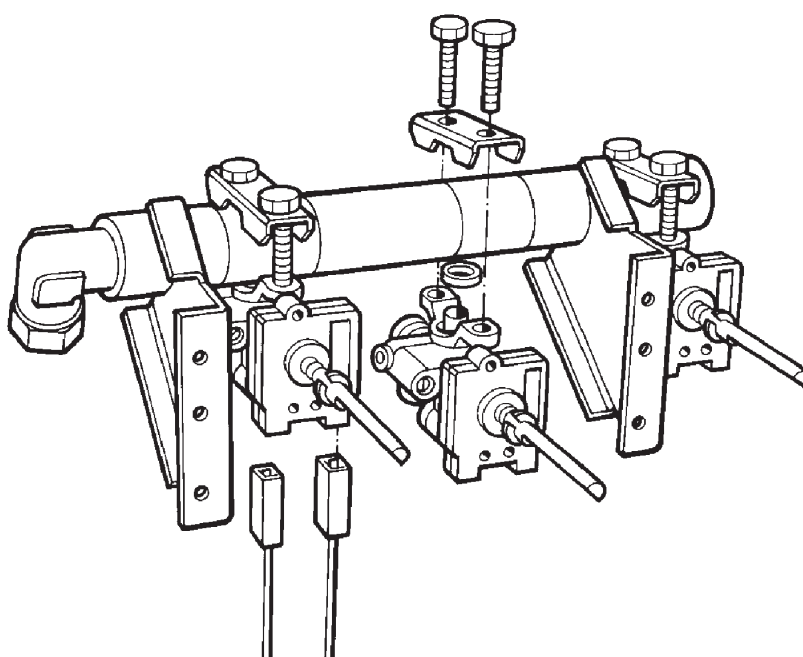

Fig. 28
3. Disconnect gas rail feed pipe (19mm nut). (See Fig. 28)
5. Remove (10) screws fixing gas rail support panel and gas rail.
6. Disconnect ignition switch cables. Lift away inner facia and move clear, do not stress wires on thermostats. (See Fig. 28).